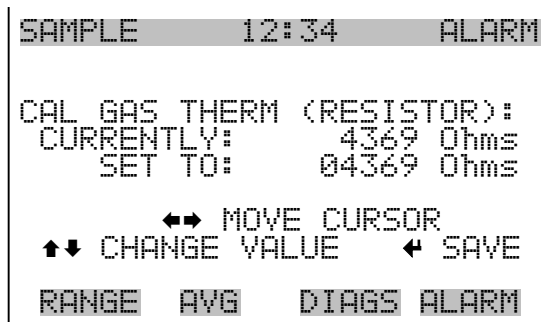

Figure 9-3. Cal Gas Therm Resistor Screen
- From the Permeation Oven menu, select **Cal Gas Thermistor**, then select known resistor (Figure 9-3).